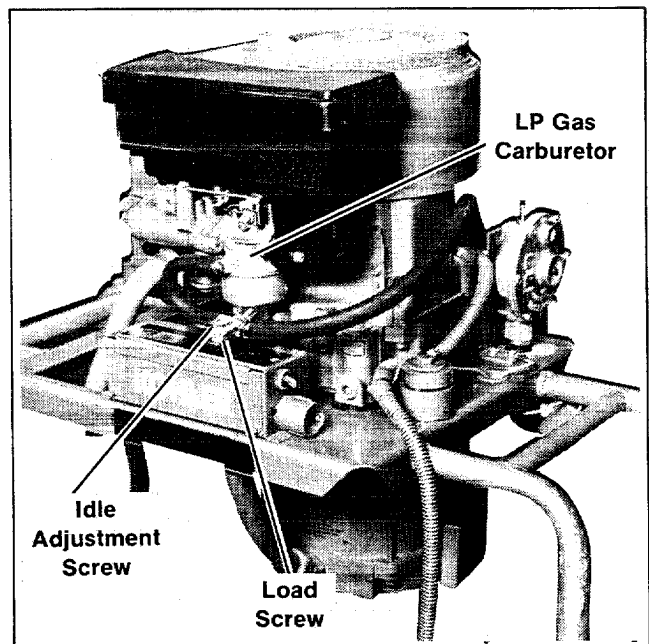

Figure 5. Carburetor Adjustments
2. Make a preliminary carburetor adjustment by turning the load (large) screw in until it bottoms lightly and turn out four full turns. Open the idle adjustment screw one turn. See Figure 5. Start the generator set without load. Open or close idle adjustment